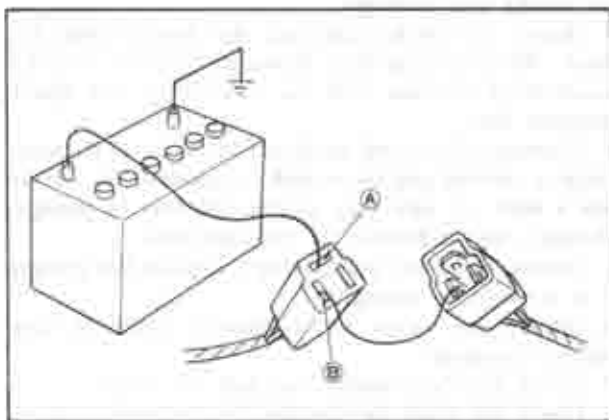

Fig. 4-26
3. Disconnect the coupler of the air control valve and connect (A) terminal (to solenoid) to the battery. Connect a jumper wire to the ends of separated couplers as shown in Fig. 4-26.